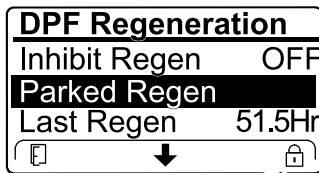

Figure 51
- If the engine computer requests a recovery regeneration or is processing a recovery regeneration and you scroll down to the PARKED REGEN option, parked regeneration locks and the lock icon (Figure 51) appears in the lower right corner of the InfoCenter.